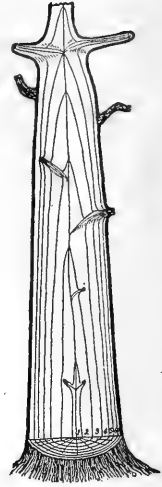

Fig. 62. Annual growth of a dicotyledon. (Andrew's Botany.)
- d. Study the rings in Fig. 62.